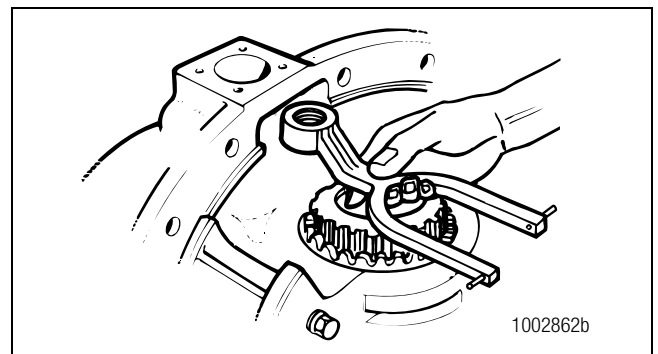

Figure 6.9
4. Install the shift fork into its correct position in the carrier case. Figure 6.9.